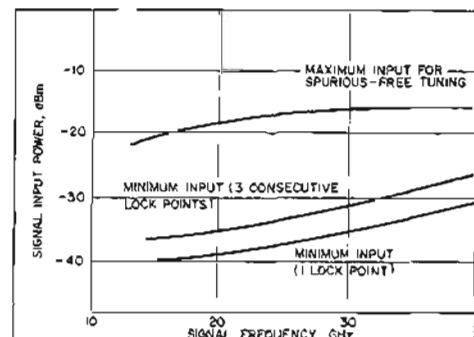

Figure 2. Typical sensitivity using constant local oscillator power.
The minimum input curve of Figure 2 is for 3 consecutive lock points being available across the entire l.o. band (two of these locks find the subharmonic of the unknown and the third is a check). When the input frequency is approximately known, only one lock point is required; then, a more practical sensitivity would be the absolute minimum curve. Sensitivity improves significantly if local oscillator power is adjusted while tuning for phase lock.
- Input sensitivity:** better than -30 dBm at 12 GHz, -20 dBm at 40 GHz. See Figure 2 for typical sensitivity.